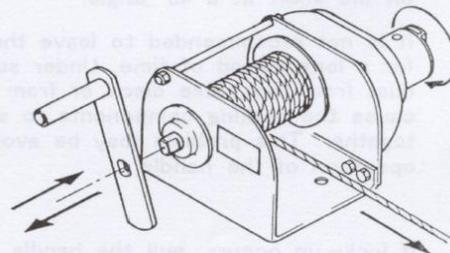

Fig. 4
3. Grasp the drum with one hand and keep from moving while turning the ratchet hub counter-clockwise until a click is heard. **Fig. 4**